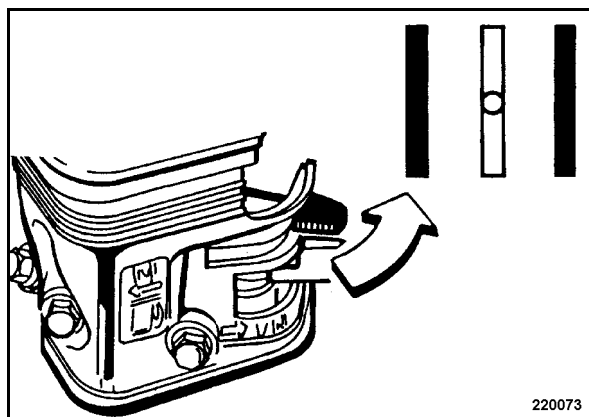

Fig. 17
- As the engine warms up open the lever (Fig. 17) of the choke bit by bit.